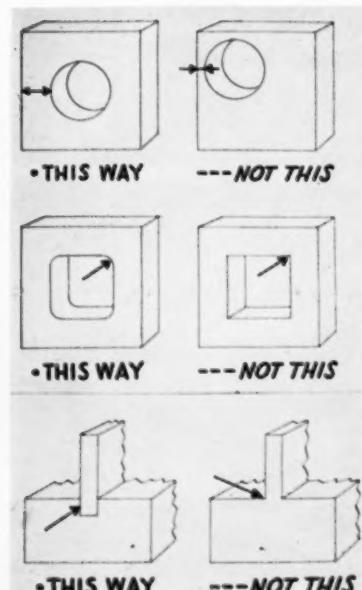

Fig. 4—Design malpractices which increase heat treating hazards and suggestions for correcting same.
The tool designer has additional responsibilities when designing tools which require heat treatment. Quite obviously, the designer should provide generous filleting at changes in section and at the same time eliminate the use of sharp re-entrant angles. The greater the degree of symmetry in a given tool, the less hazardous is its heat treatment. In the case of blanking dies, to cite but one example, it is not uncommon practice to drill holes adjacent to those already present in order to provide for greater uniformity in heating and cooling during the hardening process. The use of sectional dies simplifies heat treating problems and at the same time eases the problems of machining and grinding for the tool maker. Figure 4 illustrates several design malpractices which increase heat treating hazards along with suggested corrective designs.
Fig. 4—Shows a portable unit for magnetic particle inspection by Magnaflux or Magnaglo. This unit will handle parts up to 54" long and 10" in diameter. Both circular and longitudinal magnetization may be done on this unit.
Magnetic particle inspection is widely used in heat treat departments (1) to establish correct heat treat procedure in initial runs or on a pilot basis; and (2) for periodic sampling inspection per heat, or on a time basis. For example, portable equipment as shown in Figure 4 is used extensively for such control. It is readily moved, employs the wet method with Magnaglo (fluorescent magnetic particle inspection), and is used by the travelling inspector for periodic sampling in the heat treat department.